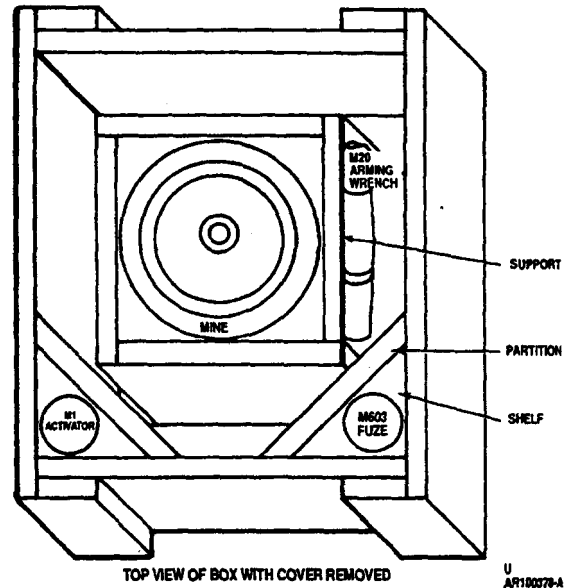

Figure 2-19. Packing box for mine M15 and M624, fuze M603, and activator M1.
(1) Remove mine from packing box (fig. 2-19) and examine mine for dents, cracks, secondary fuze well corrosion or other damage. If mine is damaged, or corroded set it aside and remove another mine.
- (1) Remove mine and arming wrench from packing box (fig. 2-19).
- (2) Inspect mine for serviceability. Check for cracks, dents, or other signs of damage. If damaged, replace with new mine. Mark and return damaged mine to supply.